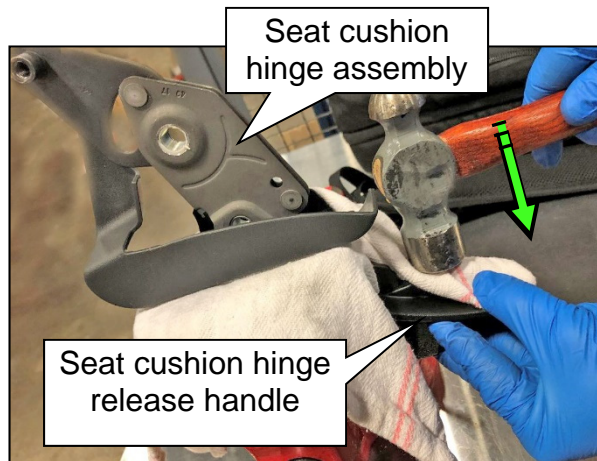

Figure 7
8. Wrap the seat cushion hinge release handle with a protective cloth and carefully tap it off of the seat cushion hinge assembly, as shown in Figure 7.